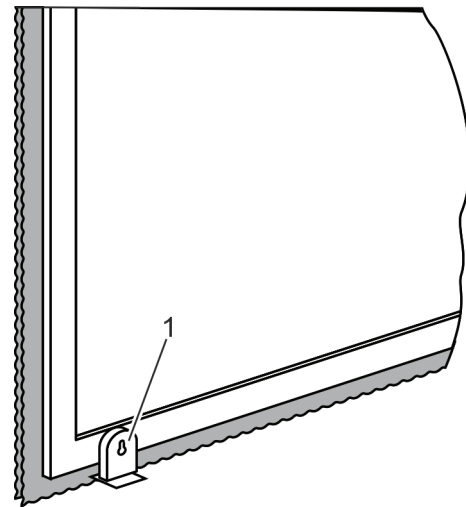

Fig. 26 Floor locking device
1. Unlock the floor locking device (Fig. 26/1) of the wings. Make sure that the lock cylinder (Fig. 26) has been unlocked with two full revolutions.